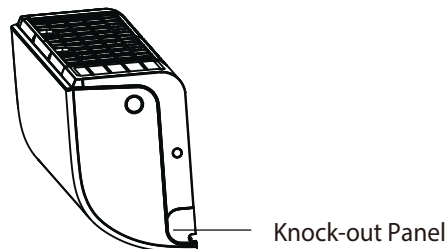

Fig. 17 — Knock Out Panel
2. If the wall hole is behind the unit, keep the knock-out panel in place. If the wall hole is to the side of the indoor unit, remove the plastic knock-out panel from that side of the unit (see Fig. 17). This creates a slot through which your piping can exit the unit. Use needle nose pliers if the plastic panel is too difficult to remove by hand.